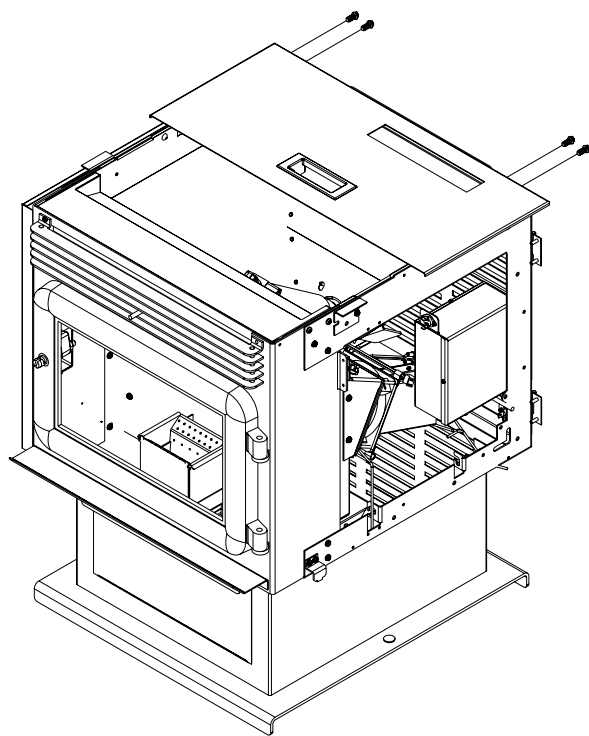

Figure 9
- 3- Attach the hopper lid hinges to the stove with the 4 screws supplied (Figure 9)